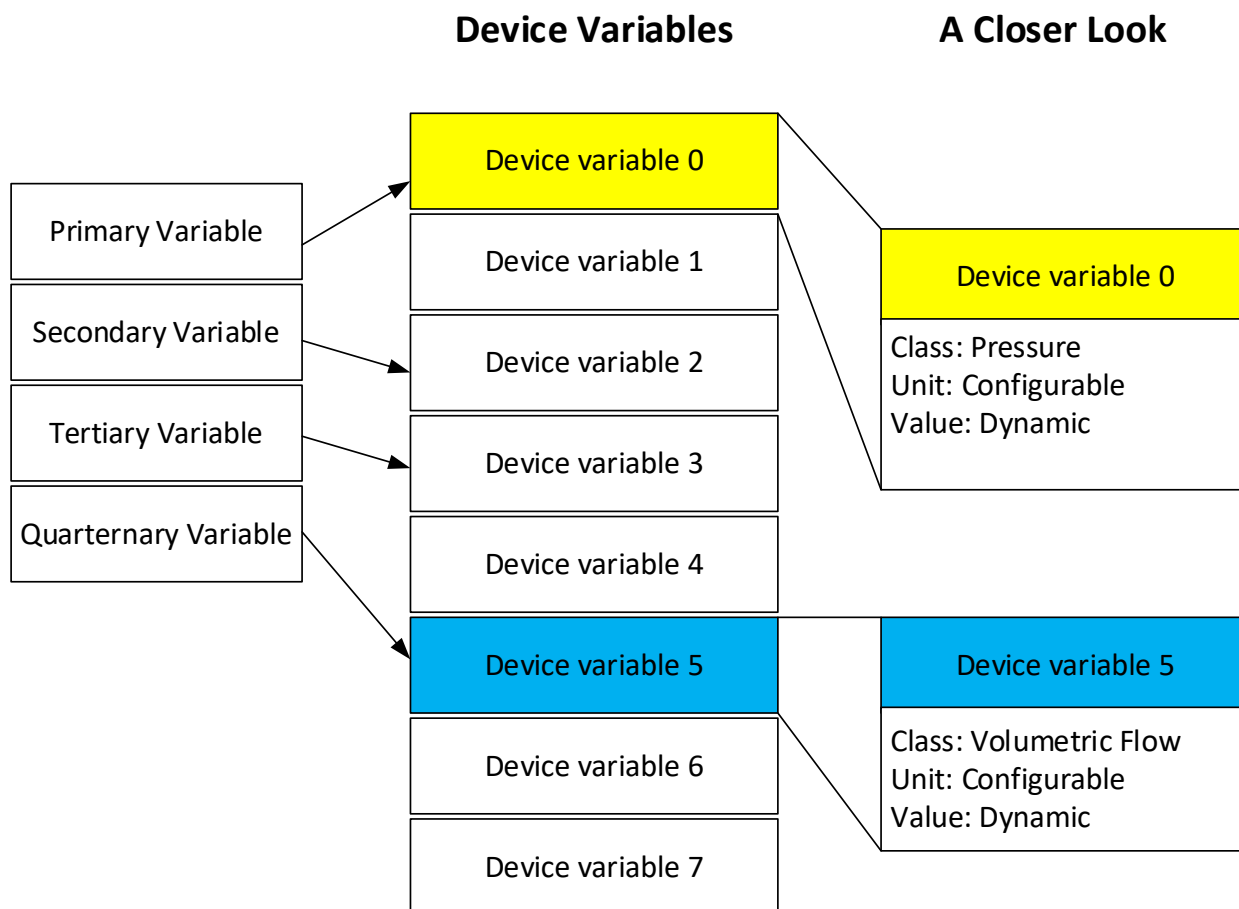

Figure 6: *Dynamic Variables and Device Variables*
In T910, the Dynamic Variables function is as a method to read device variables via e.g. HART Command 1 (Primary Variable) or HART Command 3 (All four Dynamic Variables). A Device Variable can be mapped to any of the four Dynamic Variables using either the provided software SW02 or with the HART Command 50. Figure 6 shows the structure of the Device Variables in T910 and how they can be assigned to the Dynamic Variables. In this example, the Device Variable 5 is assigned to the Quaternary Variable, and so reading QV (through Command 3) is equivalent to reading out Device Variable 5.
Each Device Variable shall be allocated to a Device Variable Classification (Class). The Unit used when presenting a variable through HART may be configured to be different compared to how it is saved in the Modbus device (as long as it is compatible with the Device Variable Classification). As such, the user may choose to read the Device Variable 0 value in the example in Figure 6 in *bar*, *psi* or any other *pressure unit*. The unit conversion is handled internally in T910.
- Internal Unit: This unit will be stored and used when reading out the value. If this unit is not the same as the unit configured for the Device Variable (see Figure 6, Dynamic Variables and Device Variables), the value will be converted between the two units when the value is read. Provided the setup of the Modbus Variable is correct, the T910 will handle this conversion correctly.